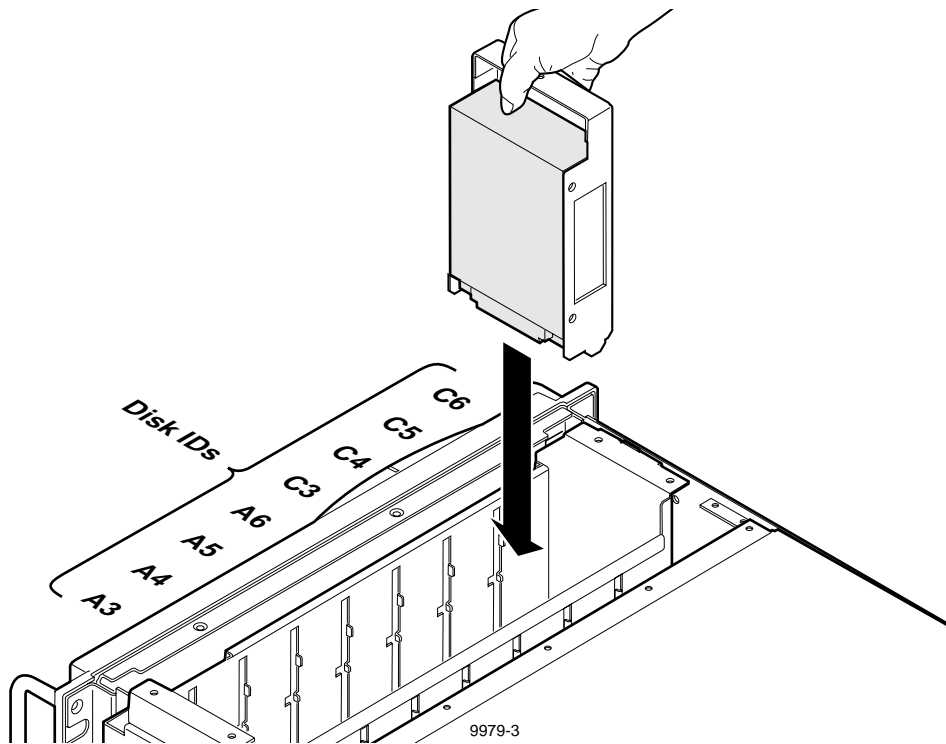

Figure 22. Inserting the media drives
8. Slide the 9 GB drives into the drive tray. See Figure 22.